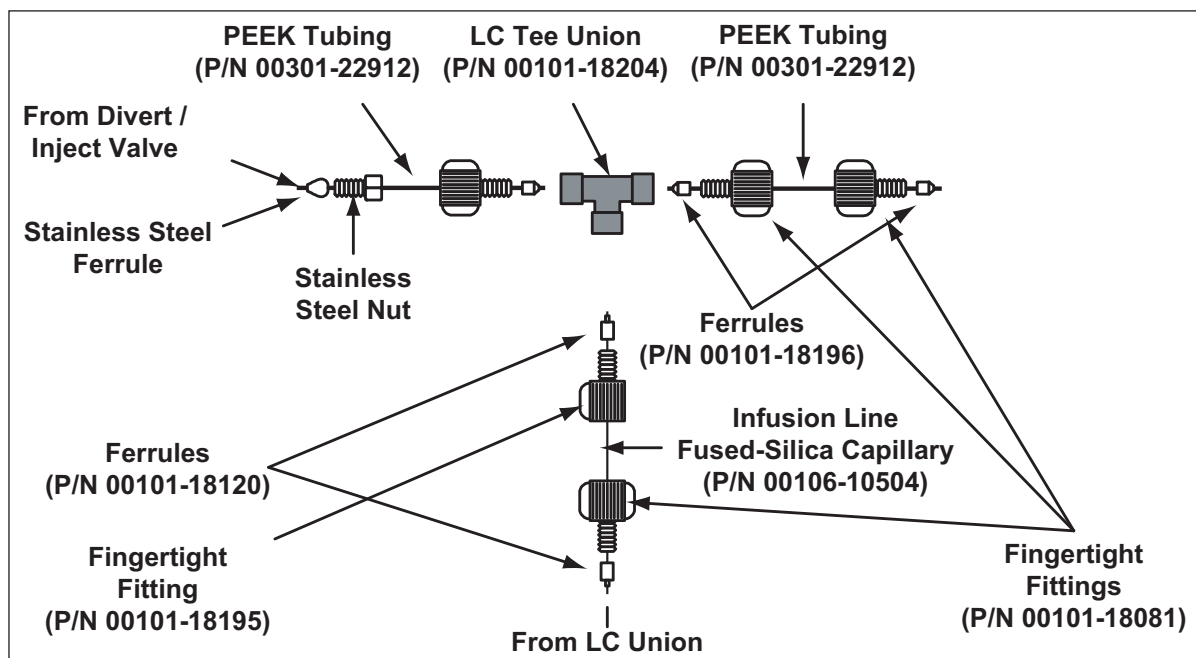

Figure 22. APCI/APPI/MS plumbing connections for the LC Tee union
4. Connect a segment of PEEK tubing from the (black) LC Tee union to the APCI LC inlet (Figure 22).
5. Connect an appropriate length of PEEK tubing (transfer line from the divert/inject valve) from the divert/inject valve to the LC Tee union: (Figure 22).